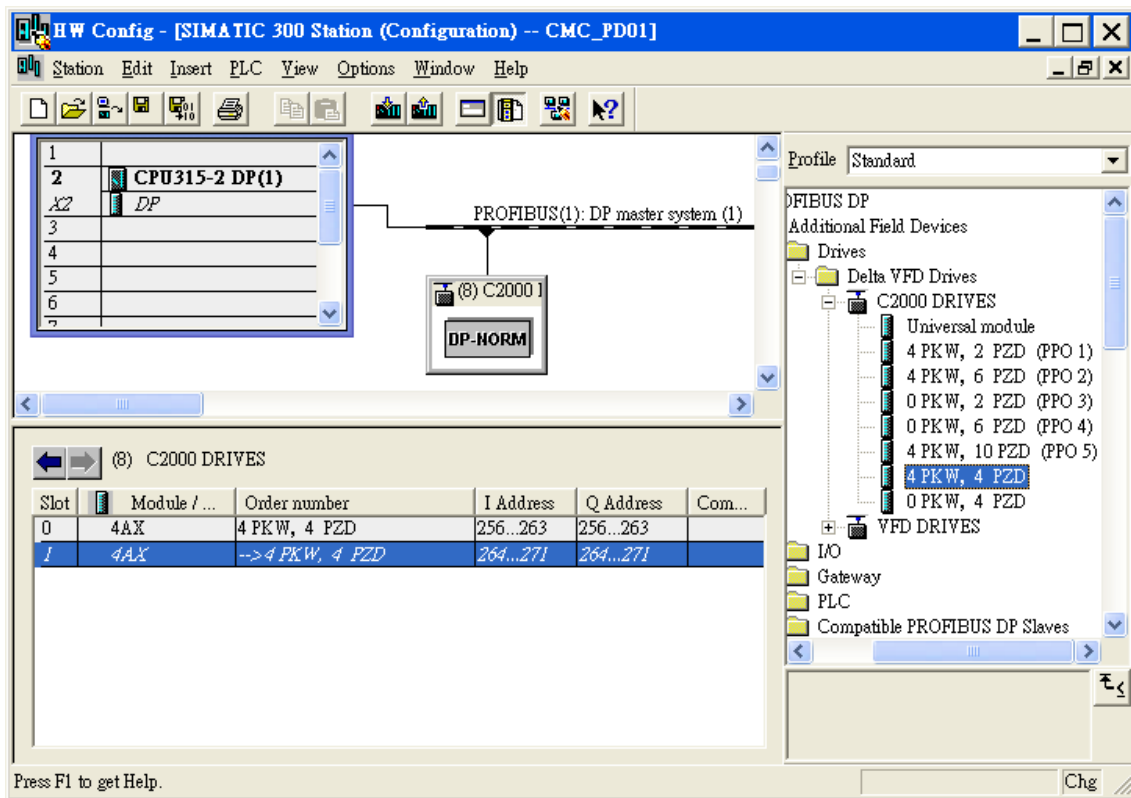

Figure 7-24
5. Configure 4PKW 4PZD to Slot 0 and Slot 1. See Figure 7-24.